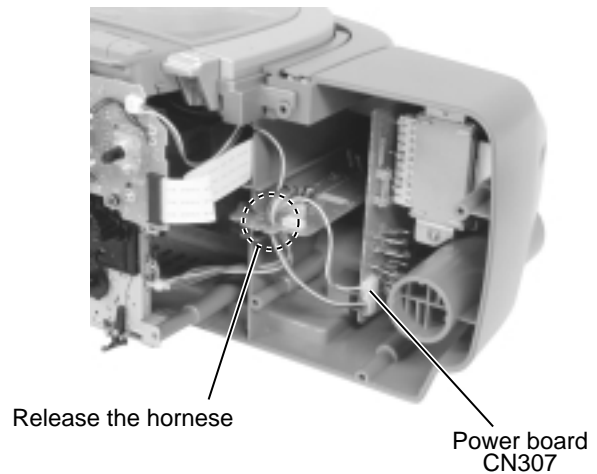

Fig.21
■Removing the battery board (See Fig.21 and 22)